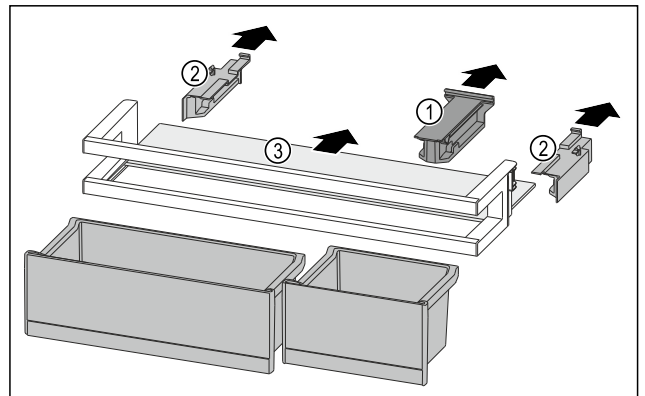

Fig. 236
- Pull off the holding part Fig. 236 (1).
- Pull off the side parts Fig. 236 (2).
- Remove the shelf Fig. 236 (3).